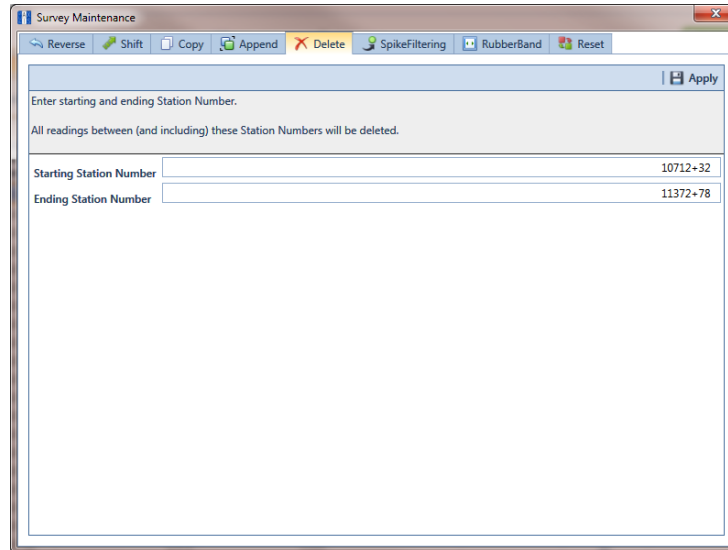

Figure 7-90. Delete Range of Station Numbers
- 5 Click  **Survey Maintenance** to open the *Survey Maintenance* dialog box. Then click  **Delete** (Figure 7-90).